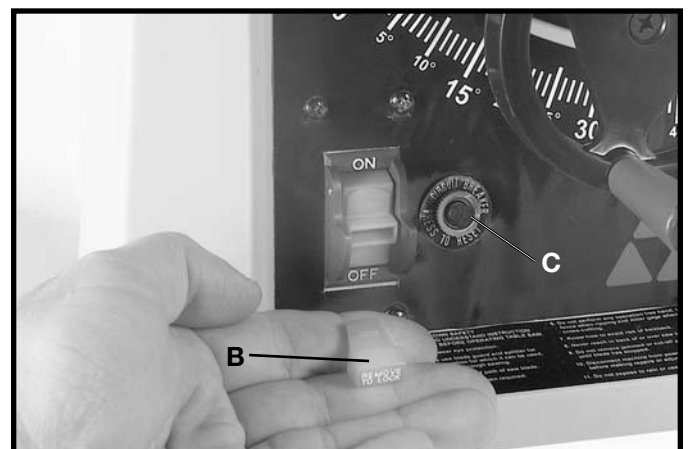

Fig. 25
When the tool is not in use, the switch should be locked in the "OFF". This can be done by grasping the switch toggle (B) and pulling it out of the switch as shown in Fig. 25. With the switch toggle (B) removed the switch will not operate. However, should the switch toggle be removed while the saw is running, it can be turned "OFF," but cannot be restarted without inserting the switch toggle (B) back into the switch.
Your saw is equipped with a reset overload relay button (C) Fig. 25. If the motor shuts off or fails to start due to over-loading (cutting stock too fast, using a dull blade, using the saw beyond its capacity, etc.) or low voltage, turn the switch to the "OFF" position. Let the motor cool three to five minutes and push the reset button (C), which will reset the overload device. The motor can then be turned on again in the usual manner.